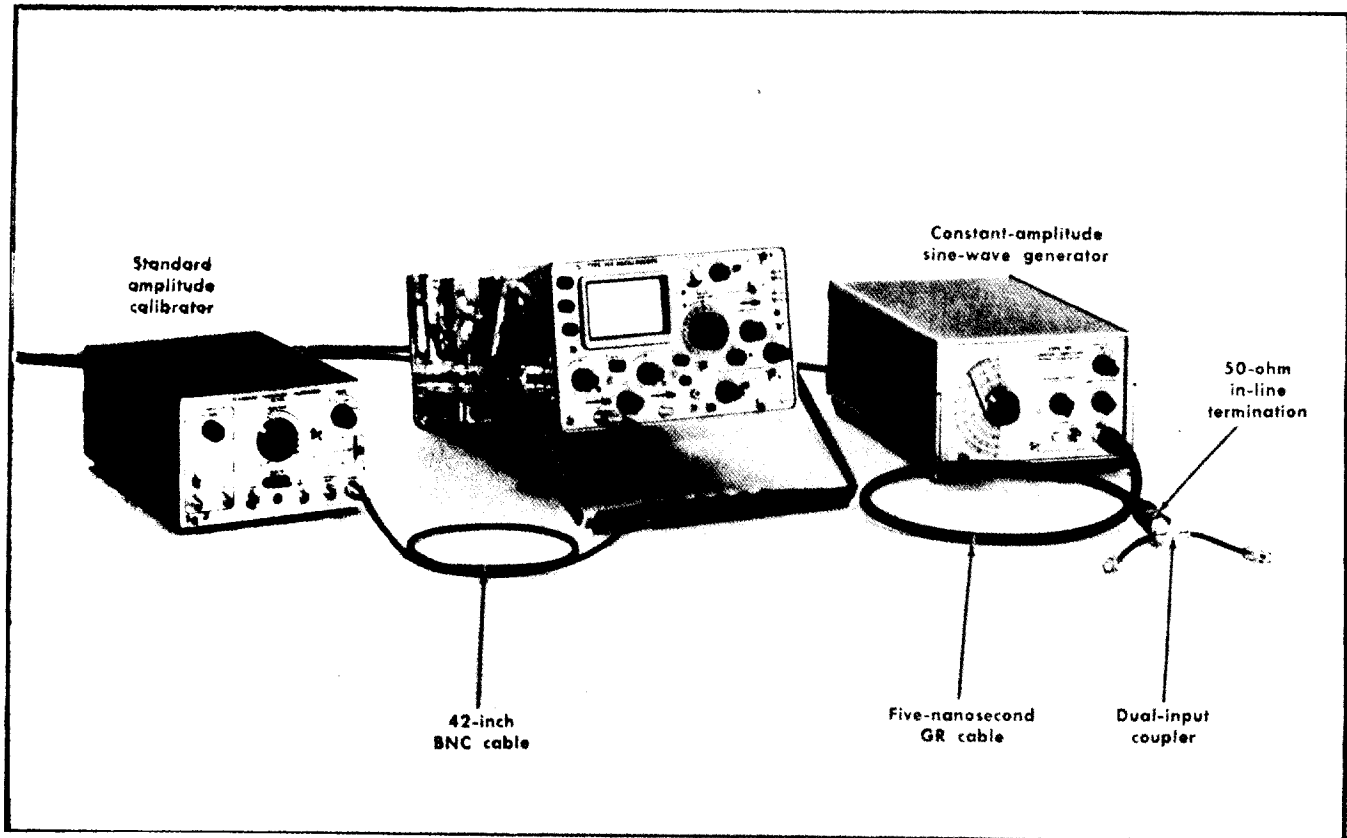

Fig. 6-50. Initial test equipment setup for steps 61 through 66.
- Test setup is shown in Fig. 6-50.